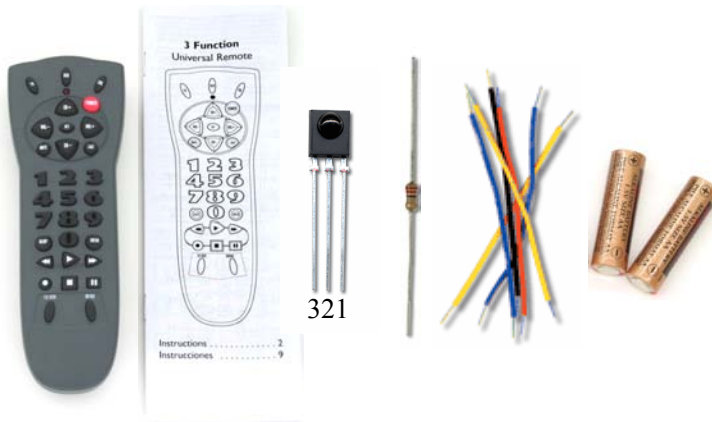

Figure 1-1
The IR Remote AppKit contains a universal remote similar to the one shown in Figure 1-1. The activities in this chapter will make use of the signals sent by a universal remote after it has been configured to control a SONY[®] television set. Most universal remotes can be configured to send messages to a SONY TV. If you want to try these activities with a universal remote you already own, or one purchased at a local store, you will need to read the documentation that comes with the remote to find out how to configure it to control a SONY TV.
- (1) 800-00016 Jumper wires – bag of 10
** The remote and instruction sheet/booklet may not be identical to the ones shown Figure 1-1.